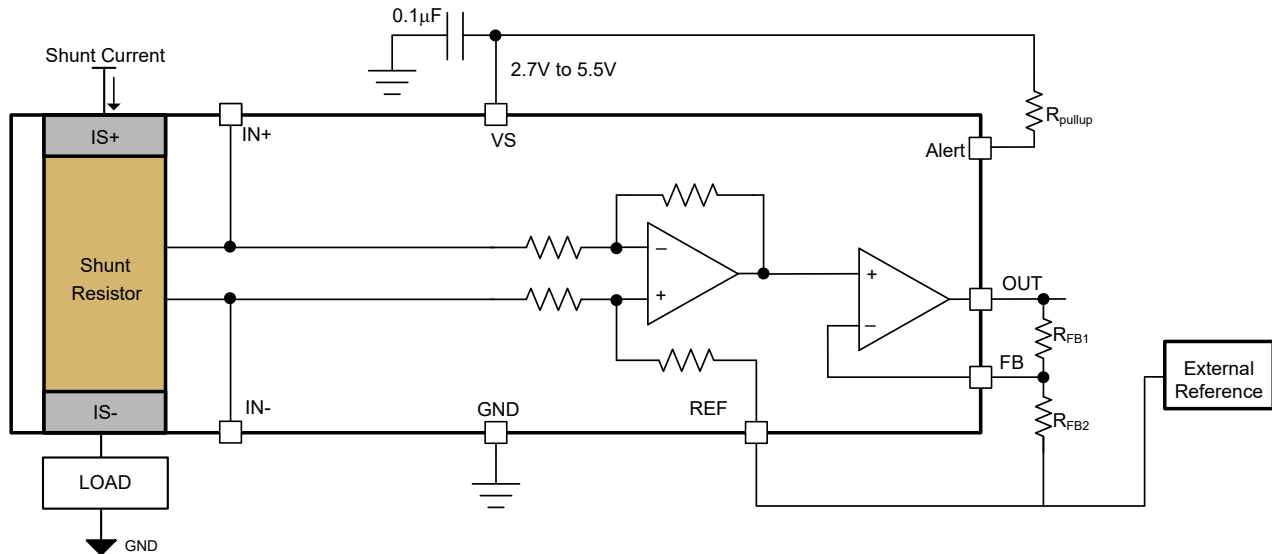

Figure 6-7. Adjustable Gain Setting With External Resistor Divider
The INA791x features adjustable gain with two external resistor network. The default gain is 20mV/A, and with added external adjustable gain resistor network, total gain (G) can range up to 400mV/A. Figure 6-7 shows two external resistors R_{FB1} and R_{FB2} configured for added external gain. Equation 2 can be used for calculating external adjustable gain and Equation 3 shows the total gain of the system with external adjustable gain. The REF pin and one end of resistor R_{FB2} is connected to external reference based on needed voltage at OUT pin as described in Adjusting the Output With the Reference Pin.